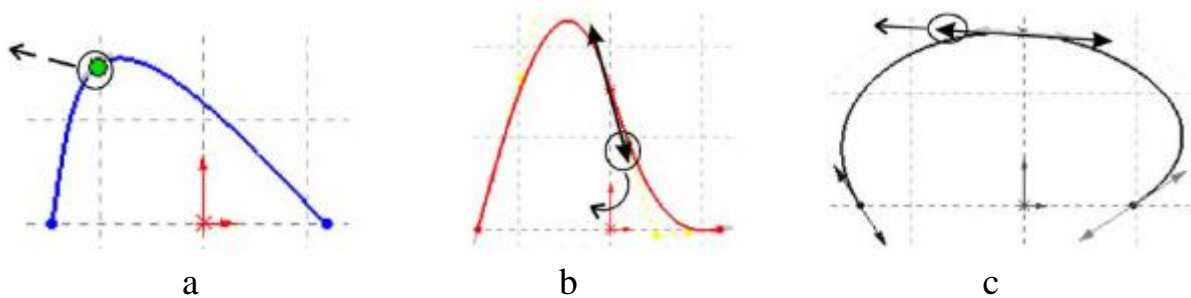

Fig. 2.7. Methods of controlling the shape of a spline
- By moving a node (fig. 2.7, a);
- By changing the **Radial Tangent Direction** – the angle of inclination to the coordinate axis (fig. 2.7, b);
- By changing the **Tangent Magnitude** – the radius of curvature at a specific point (fig. 2.7, c).